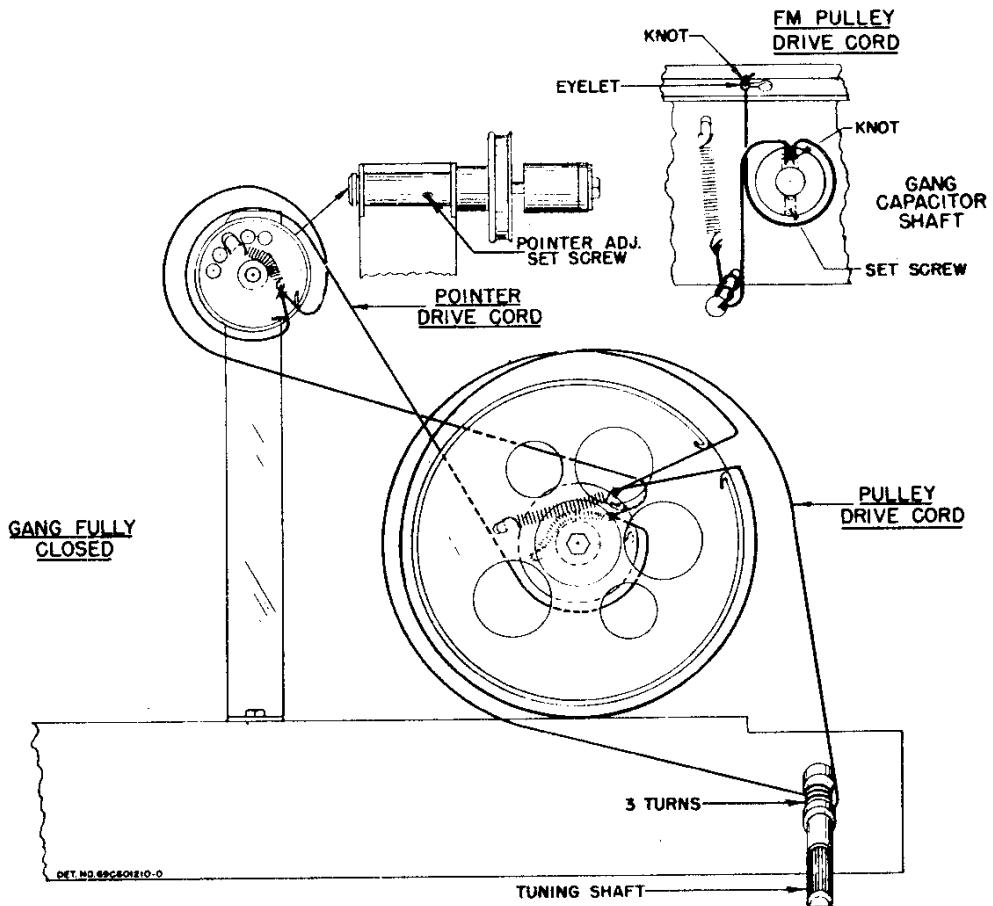

FIGURE 3. POINTER AND DRIVE CORD RESTRINGING DETAIL
5. From the back of the cabinet, loosen the pointer adjustment setscrew (see Figure 3) and pull the pointer and shaft assembly from the chassis. CAUTION: Do not remove the nut from the front of the pointer, as the detent ball and spring will fall out, and may become lost.
2. From the back* of the cabinet, loosen the pointer adjustment setscrew (see Figure 3). CAUTION: Do not remove the nut from the front of the pointer.